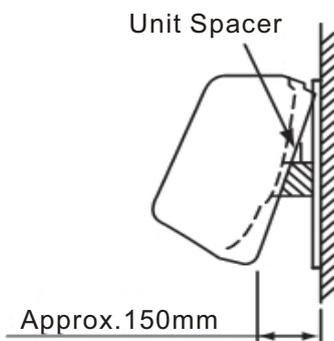

Fig. 5.5 Using the Unit Spacer
(6) When connecting the pipes, use the unit spacer (factory-supplied) as shown in Fig. 5.5.